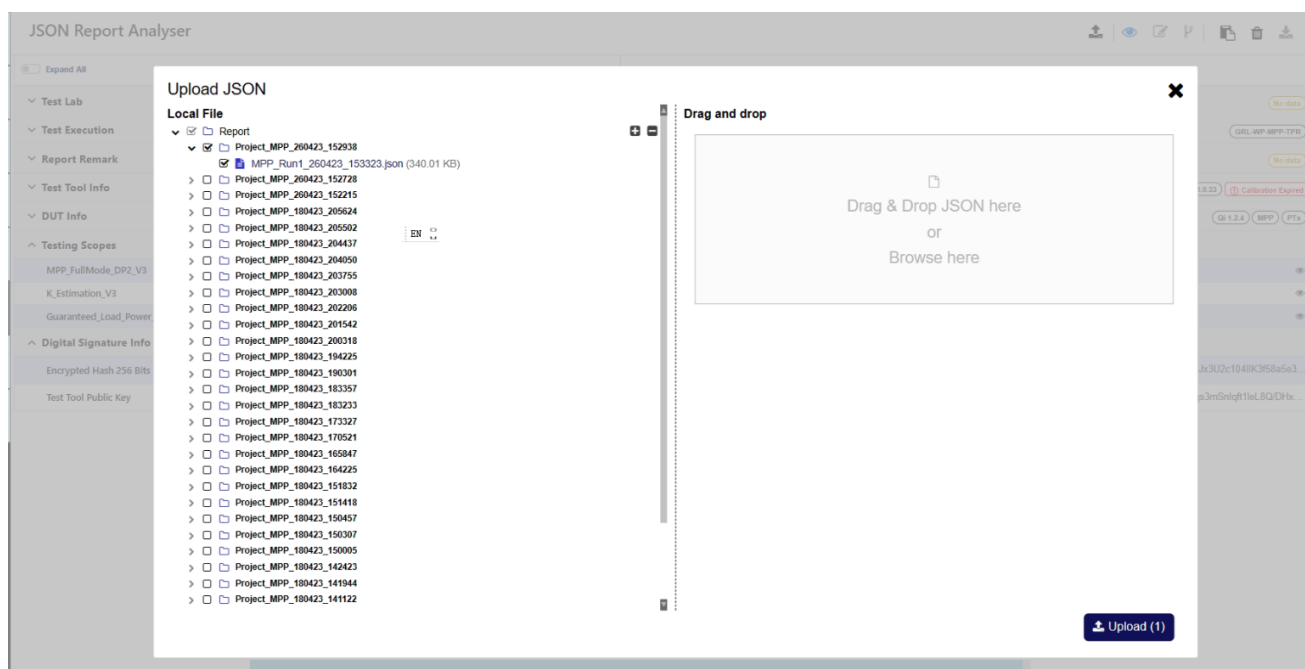

FIGURE 8.110: SELECT JSON FILES TO UPLOAD
- The following pop-up window will appear as shown in Figure 8.110. The “Local File” panel on the left will show the list of all JSON report files that have been generated from previous test runs and stored in the default file location. The user can select one or more of these files and click on the **Upload** button on the bottom right of the window.